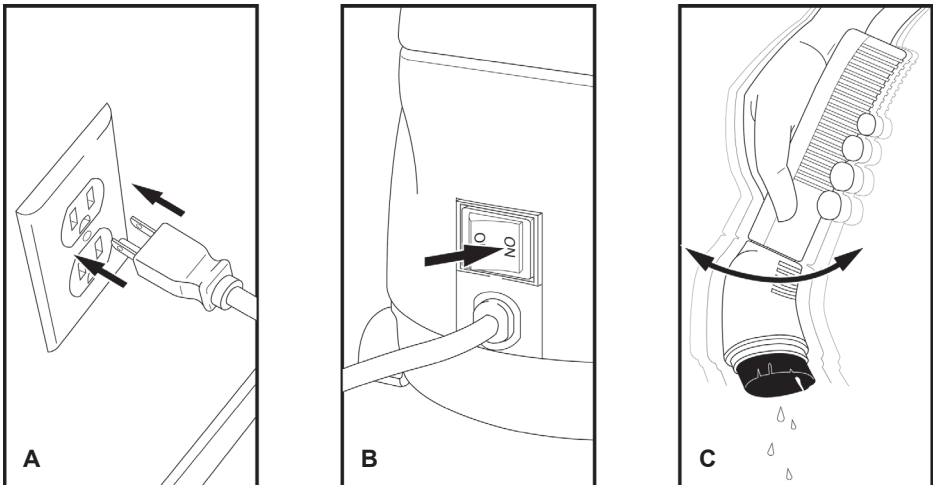

FIGURE 8
1. For first-time use, remove protective plastic cover that is shipped on electrical plug. Plug power cord into a convenient 3-prong electrical outlet (FIGURE 8-A).
2. Set Lighted On/Off Switch to “ON” position (FIGURE 8-B), and verify that switch is illuminated.
NOTE: It is common for the unit to produce gurgling sounds and small amounts of water during the first few minutes of steaming. This is a natural part of the steaming process. Pointing Steam Nozzle towards the ground and shaking it may help to remove excess water from Hose more quickly (FIGURE 8-C).